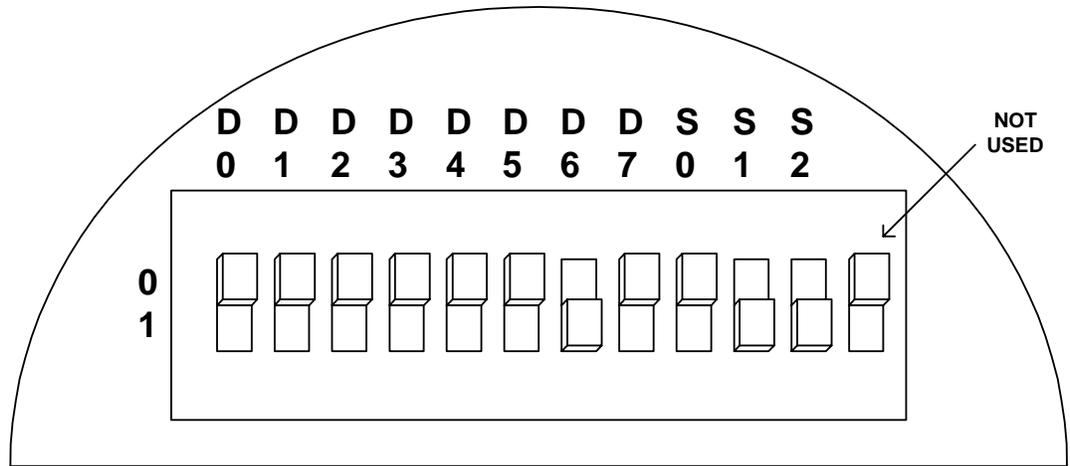

Figure 3. Dip Switches Set to Value [110 01000000] to Reset XRD9827
1. Set the dip switches located on the side panel of the scanner to [110 01000000] as shown in Figure 3 and push the Serial Port button which is located on the front panel of the demo system. This will reset the XRD9827.